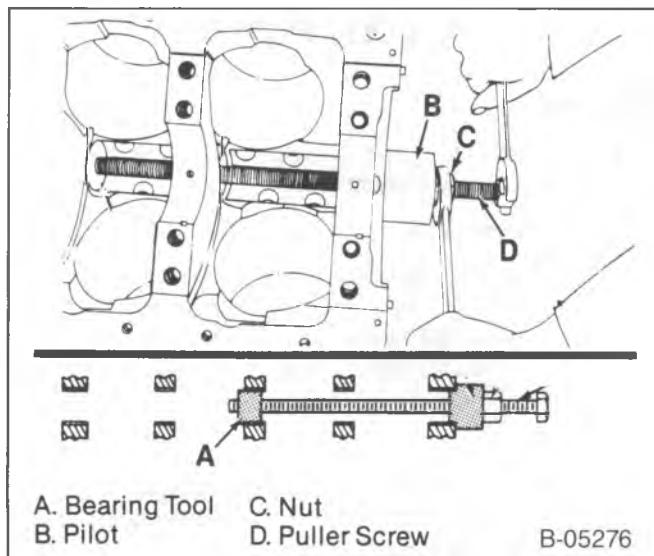

Figure 17—Replacing the Inner Camshaft Bearings
Disassemble (Figures 17 and 18)
2. Inner camshaft bearings. Use J 6098-01 and J 6098-10 (figure 17).
Assemble (Figures 17 and 18)
- 3. Inner camshaft bearings. Use J 6098-01 and J 6098-10 (figure 17).